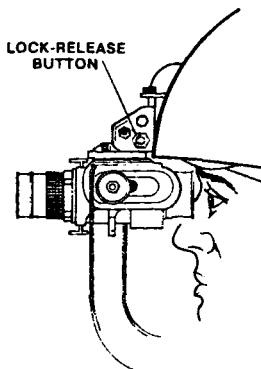

Figure 2-15. Lock-Release Button.
(1) Grasp the binocular with your left hand.
(2) With the index finger of your left hand, press in the lock-release button (fig. 2-15).
(3) Smoothly, but firmly, rotate the binocular upward toward the top of the helmet until it stops.
(4) Release the lock-release button. Make sure the binocular is locked in the up (stowed) position before releasing your hold on the binocular.
(5) To flip the binocular back to the operating position, grasp the binocular with your left hand.
(6) With the thumb of your left hand, press in the lock-release button (fig. 2-15).
(7) Smoothly, but firmly, rotate the binocular downward until it stops.
(8) Release the lock-release button. Make sure the binocular locks into the operating position.